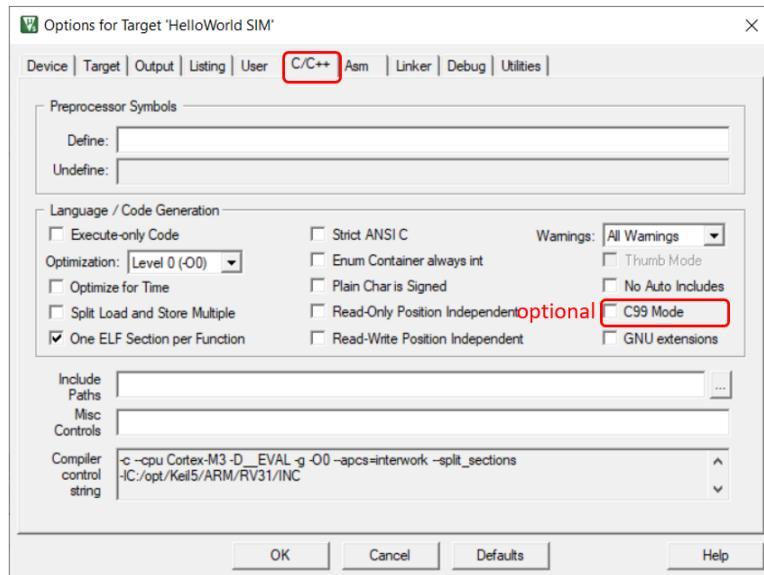

Figure 8.12: Keil IDE: Target Options C/C++ Tab Configuration
2. Configure the C/C++ tab as shown in Figure 8.12. We do not need c99 for this example. So we leave it unchecked. If you click OK to finish the Target option setting now, you will find the red cross at line 2 (See Figure 8.10) is now gone. Now re-open the target options configuration window and proceed to the next step.